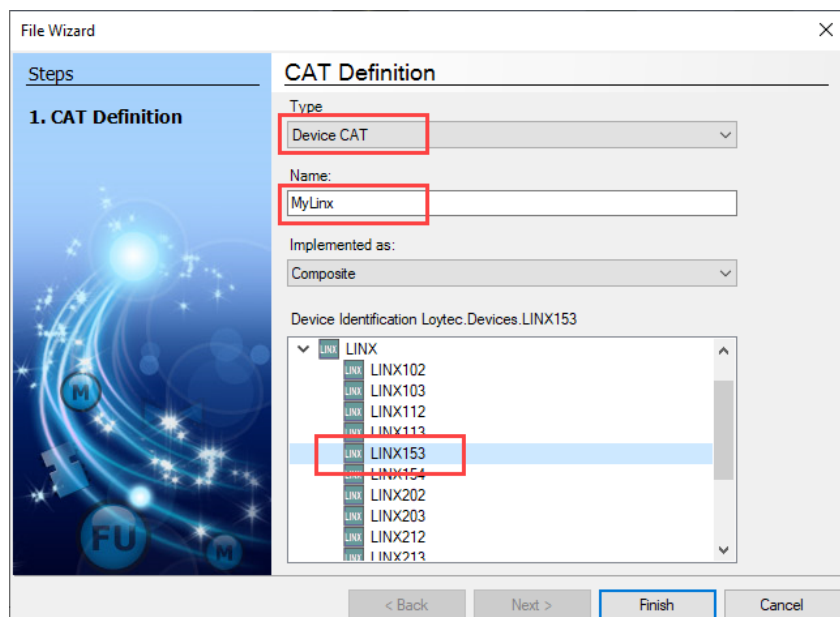

Figure 48: Create a new device CAT.
17. As a next step it is necessary to create a device type. In the 'KickStart' solution tree, select **CAT** → **Application**. Then right-click and choose **New Item**. Select Device CAT, enter a name and choose the device model, e.g. LINX-153, as shown in Figure 48.